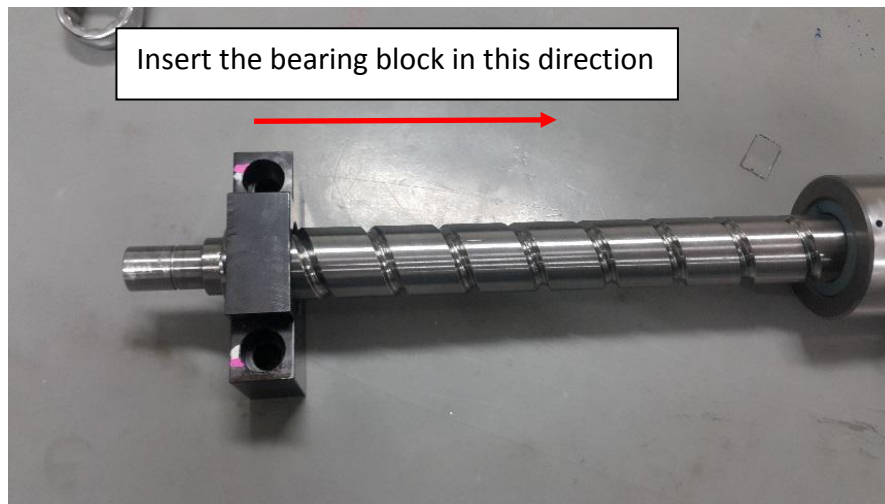

Figure 31 Bearing block
25. Insert the bearing block into the new ball screw as shown in the Figure 31.